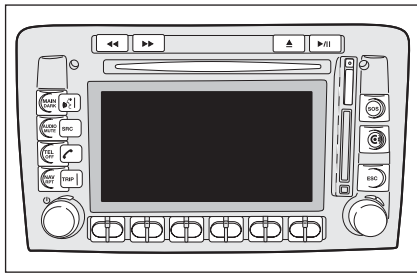

fig. 4
- with Connect Nav+ **fig. 4**.